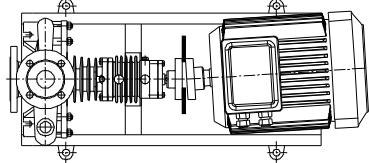

Fig. 4a Angle error in horizontal plane and to settle
- Fig. 4a, 4b, 4c, 4d show alignment of coupling step by step.*